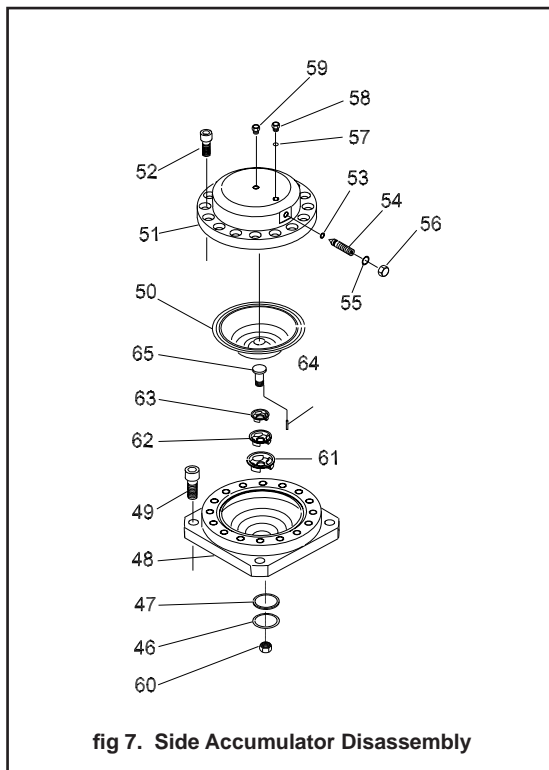

fig 7. Side Accumulator Disassembly
The side accumulator may be removed from the power cell in its entirety by removing 4 capscrews (49). (See figure 7)